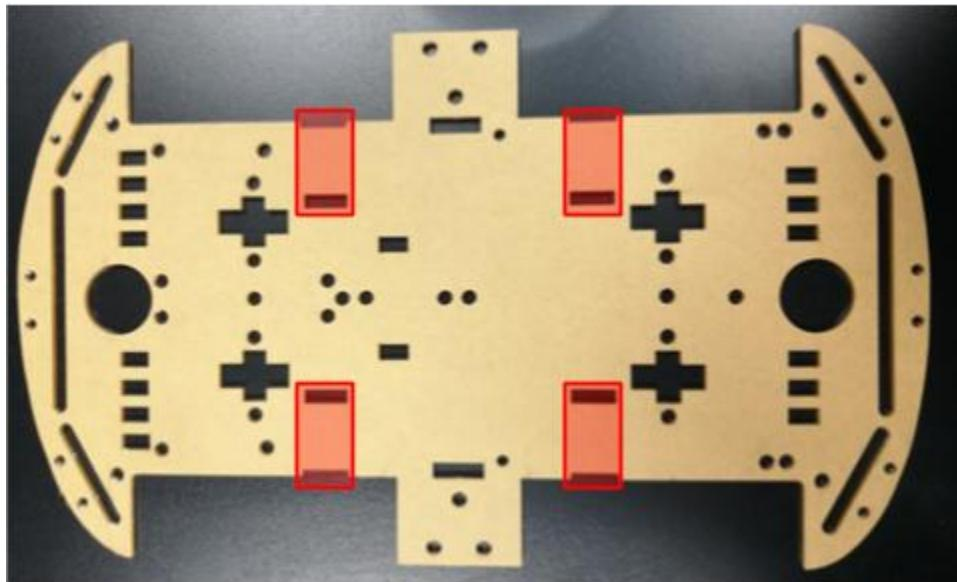
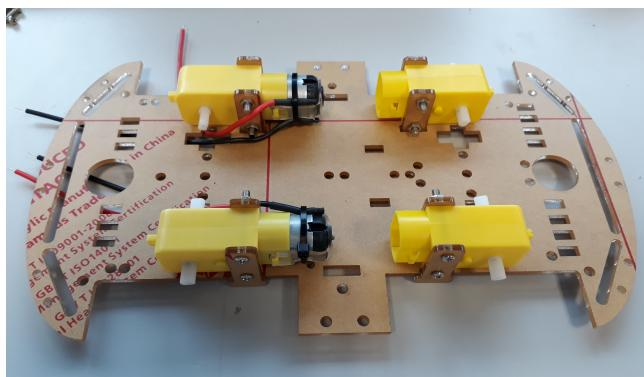

Figure 4: Plates that make up the structure of the Buggy. The holes highlighted in red are where the motors are to be mounted.
Figure 6: All four motors attached in correct orientation
Step 1: The main components of the buggy are two large plastic plates. Go and find these in the buggy kit (see figure 4). Choose one of the plates to be the *base* to your buggy, and one to be the top.
Step 2: Now go and find the gear boxes for the buggy, they are bright yellow and look what is shown in figure 5, there should be two with wires coming out of them, and two without any wires. The gear boxes with wires have motors, the gear boxes without wires don't have any motors. At each corner of the base plate, there are slots to attach each of the four gear boxes, as highlighted in red in figure 4. Using two of the t-shaped plastic pieces shown in figure 5, the mount the motor to the bottom of the base plate by placing one on each side. Also look at figure 6 to show you how the finished product should look. Note, in figure 6 the two gear boxes with wires are mounted together, and the ones with no wires are mounted together. You should do the same.
Step 5: This process can be repeated with all of the motor mounts in all four corners of the base plate. Ensure that the motor casings containing the motors are both attached to the same end of the base. Once all motors are attached, thread the motor wires through the opposite side of the base plate as shown in figure 6.